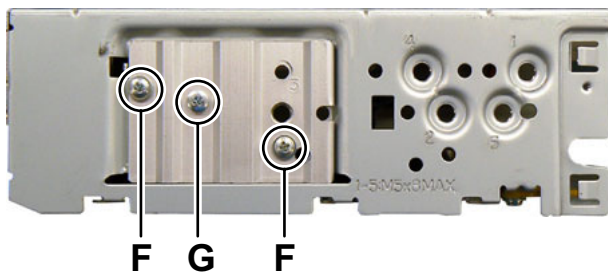

Fig.3
3.1.3 Removing the Main board (See Fig.3 to 5)
- (1) Remove the two screws **F** and one screw **G** attaching the Side panel. (See Fig.3)